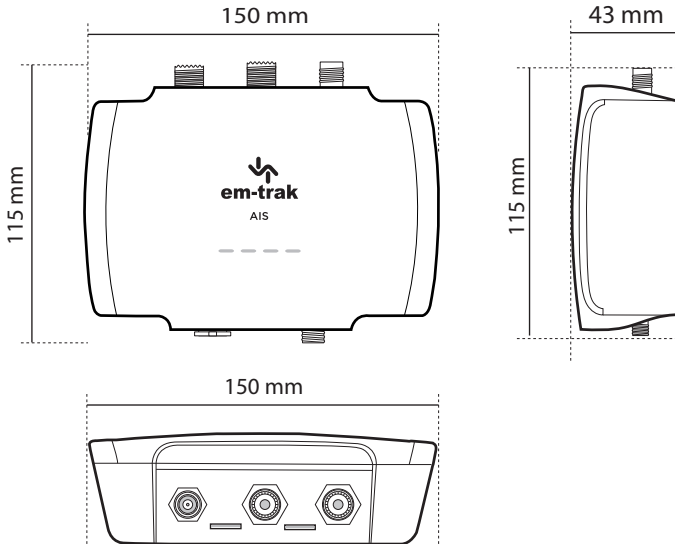

Figure 6 AIS transceiver dimensions
- There should be adequate space around the AIS transceiver for routing of cables. See Figure 6 for details of the AIS transceiver dimensions.